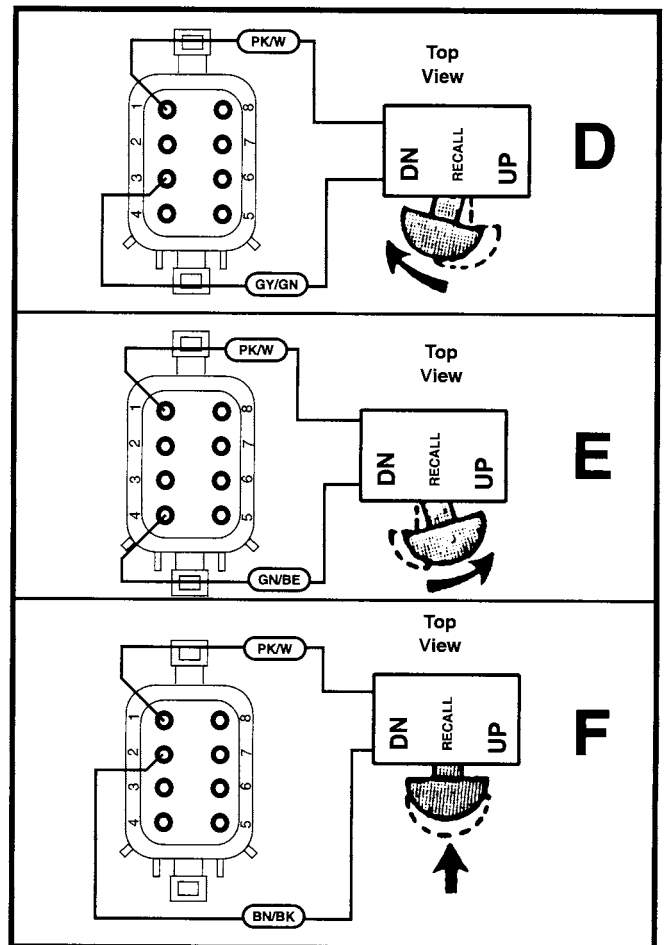

Figure 43. Volume Switch Test
4. Refer to Figure 43, View D. Place ohmmeter probes on connector pins (1) and (3), and move volume control knob to position shown (DN position). Meter should register approximately zero ohms. Leave probes on pins (1) and (3), and move control knob to UP position. Meter should register infinite ohms. If meter readings vary significantly from the recommended readings, replace switch.
5. Refer to Figure 43, View E. Place ohmmeter probes on connector pins (1) and (4), and move volume control knob to position shown (UP position). Meter should show approximately zero ohms. Leave probes on pins (1) and (4), and move control knob to ON position. Meter should read infinite ohms. Release knob (let it return to center position). The meter should still read infinite ohms. If meter readings vary significantly from these values, check wiring and switch.
6. Refer to Figure 43, View F. Place ohmmeter probes on connector pins (1) and (2), and push knob in as shown (RECALL position). Meter should show approximately zero ohms. Leave probes on pins (1) and (2), and release knob. Ohmmeter should show infinite ohms. If meter readings vary significantly from these values, check wiring and switch.